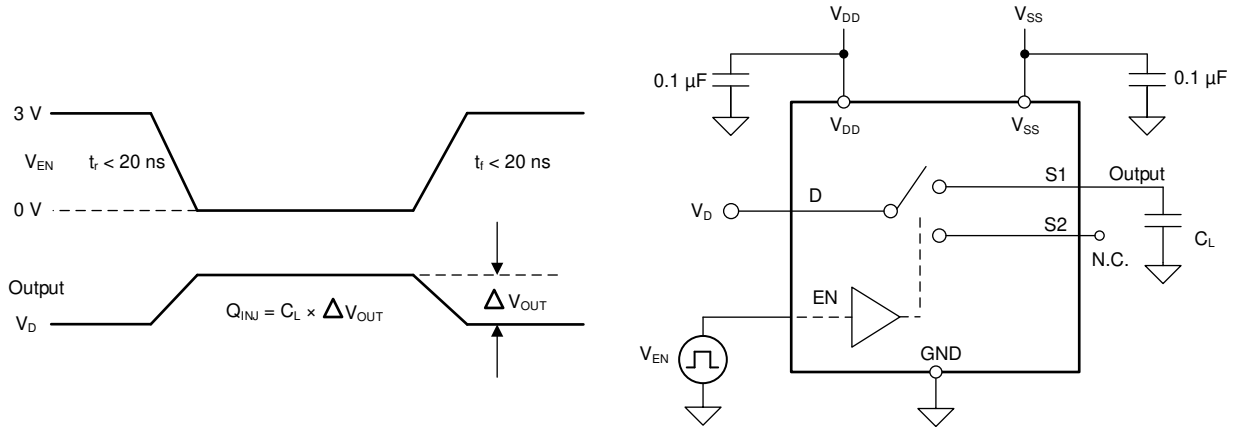

Figure 7-9. Charge-Injection Measurement Setup
The TMUX7219 has a transmission-gate topology. Any mismatch in capacitance between the NMOS and PMOS transistors results in a charge injected into the drain or source during the falling or rising edge of the gate signal. The amount of charge injected into the source or drain of the device is known as charge injection, and is denoted by the symbol Q_C . Figure 7-9 shows the setup used to measure charge injection from source (Sx) to drain (D).